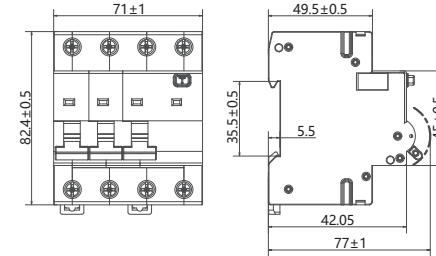

Figure 1. AUB7HLM-3P+N Outline Installation Dimensional Drawing
7.1 Appearance and installation dimensions (see Figure 1)